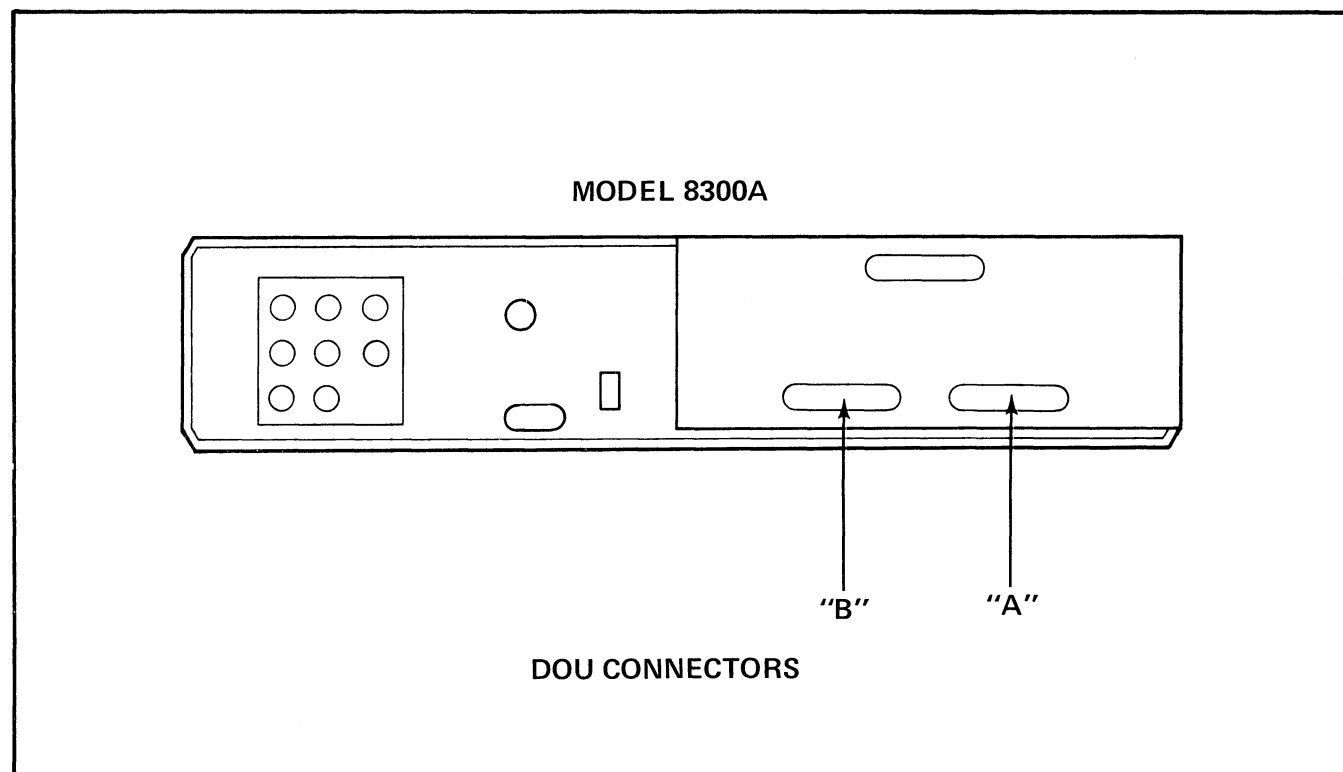
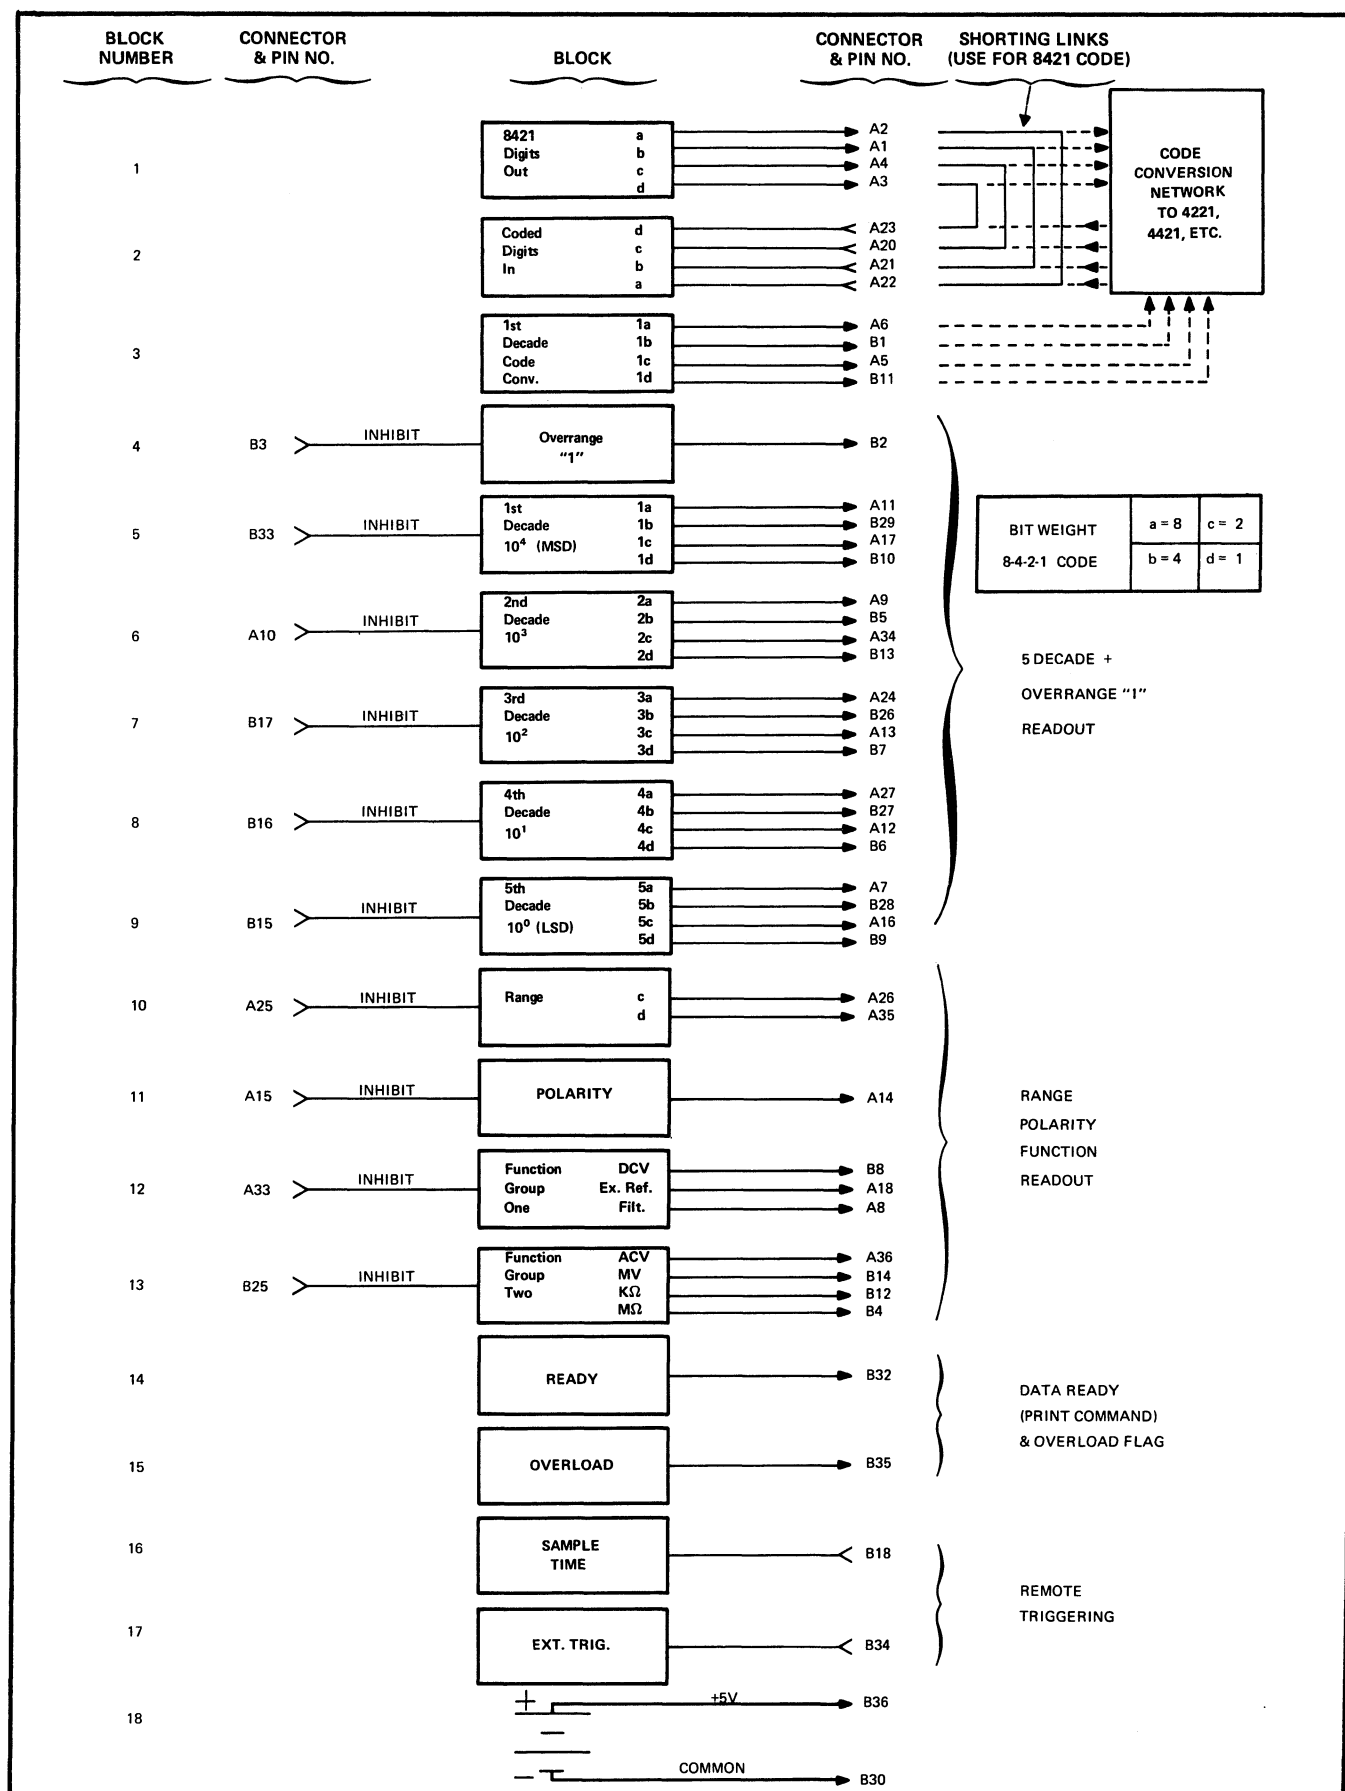

Figure 2-8. DATA OUTPUT UNIT CONNECTOR LOCATIONS
Figure 2-9. DATA OUTPUT UNIT FUNCTIONAL PIN CONNECTION DIAGRAM
- d. Command a function or range via a contact closure or a zero volt logic load between the appropriate pin and common, as shown in Figure 2-9. Do not command a range to autorange.
are shown in Figure 2-8. Mating right-angle connections (Amphenol P-57-50360) are supplied with the DOU. Mating straight-out connectors, (Amphenol P-57-30360) are not supplied; if used, they will add approximately 3 inches to the overall Model 8300A depth with the DOU installed.
2-29. The DOU may be addressed to provide data output completely in parallel or in a series character, parallel bit format. The DOU functional pin connection diagram is given in Figure 2-9. The input/output signals are grouped by functional block in one column. Each input and output pin is assigned a letter and numeral. The letter designates which DOU connector (Figure 2-8) is to be used, and the numeral identifies the number of the pin on that connector on which the listed data appears.